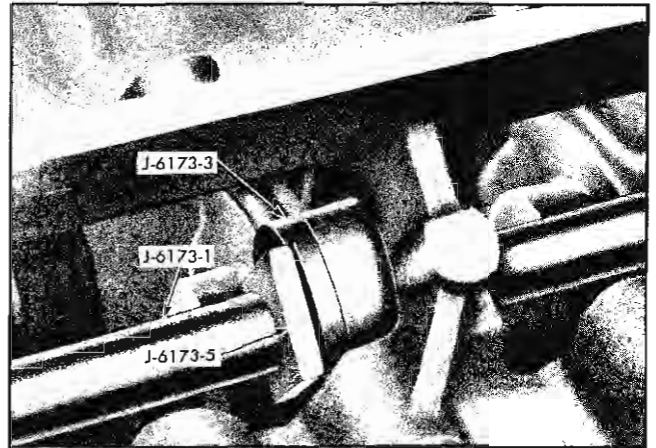

Fig. 6-47 Tools Positioned for Bearing Installation
5. Position Replacer Adapter J-6173-3, with bearing in position against shoulder, against rear of hole in which bearing is to be installed (Fig. 6-47). Index mark on shoulder of Replacer must point toward crankshaft to properly position bearing.
7. Slip key J-6173-5 into notches in shaft behind Replacer Adapter J-6173-3 and tighten nut to start bearing into hole (Fig. 6-47). Continue to tighten nut until bearing has been pulled completely into its hole. When properly positioned, it will be approximately flush with both sides of the transverse member.